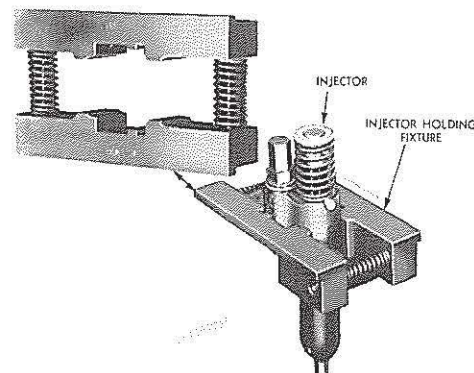

FIG. 7
1. Support the injector right side up in a vise with the fixture as shown in Fig. 7 and loosen (not remove) the 2 fuel connections.